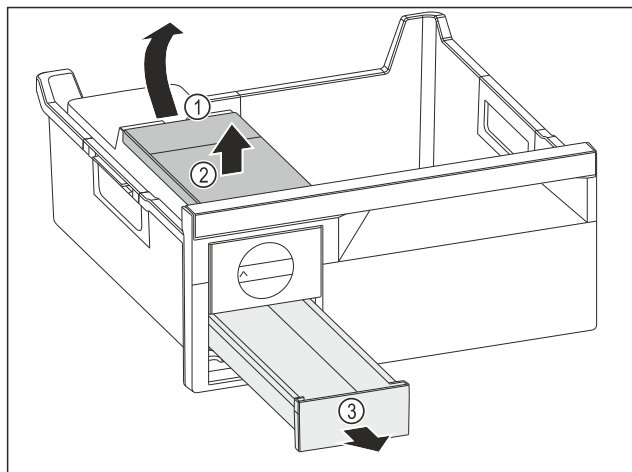

Fig. 67
- Removing the water tank: Lift the water tank by the recess Fig. 67 (1).
- Remove the water tank Fig. 67 (2) upwards.
- Remove the ice cube drawer Fig. 67 (3) to the front.